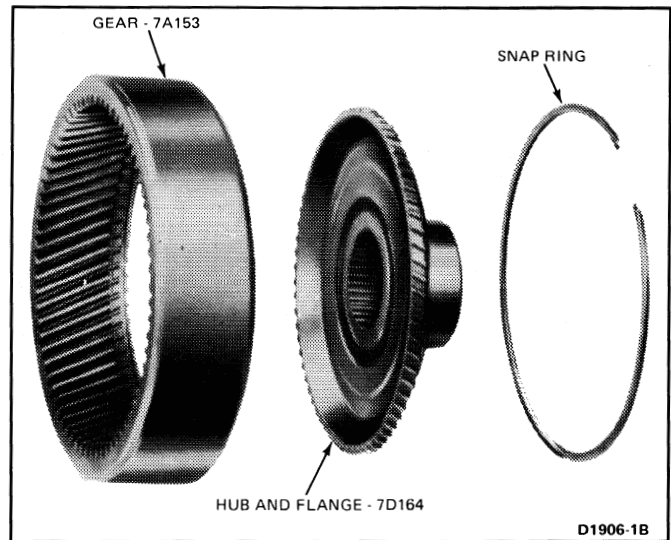

FIG. 56 Output Shaft Hub and Ring Gear
1. Remove the hub snap ring (Fig. 56) from the ring gear.